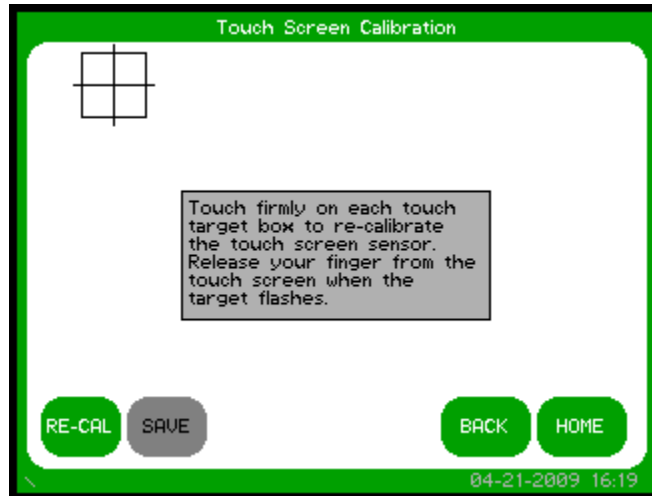

Figure 3 - Touch Screen Calibration
Step 3: The "Touch Screen Calibration" screen will then appear (See Figure 3). Press and hold on the center of the touch target, release when the touch target begins to flash. Repeat with the next two touch targets.